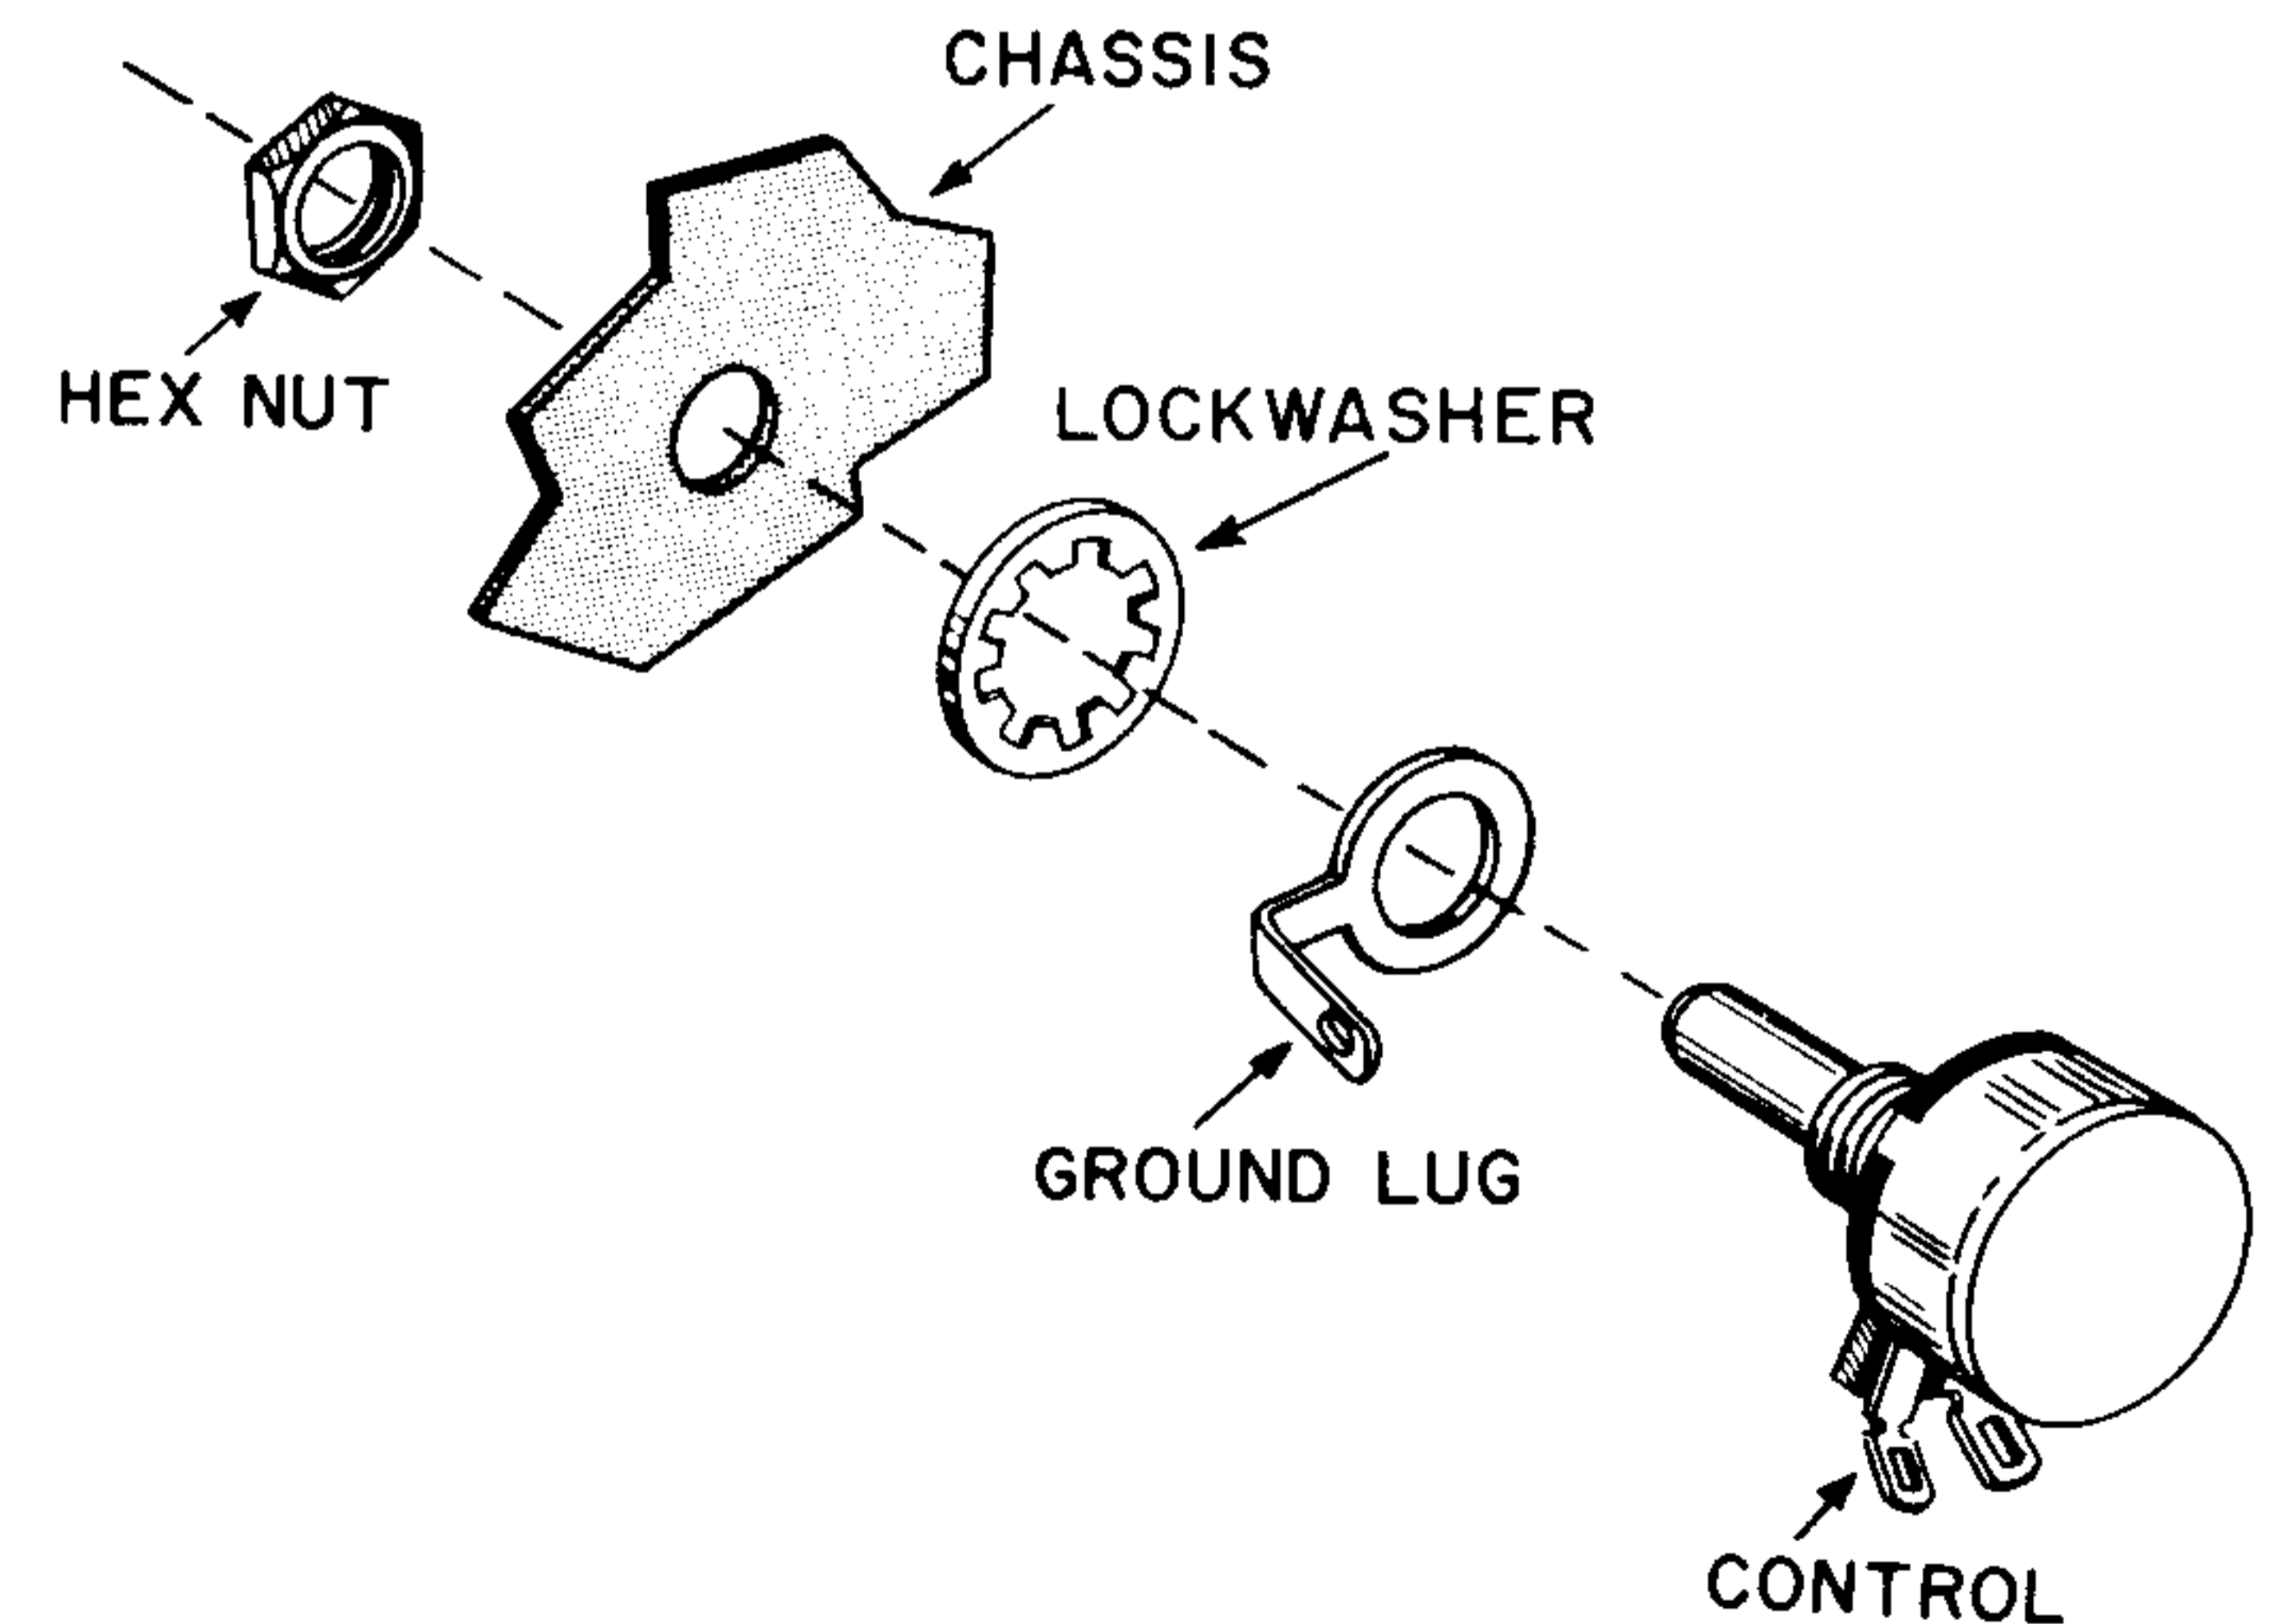

FIGURE 5. HOW TO MOUNT A CONTROL USING A GROUND LUG
- From inside the chassis, mount R-24, the 10KΩ QX SELECTIVITY control, with one 3/8" ground lug, lockwasher and nut as shown in Figure 5. Position the terminals as shown in Figure 3.